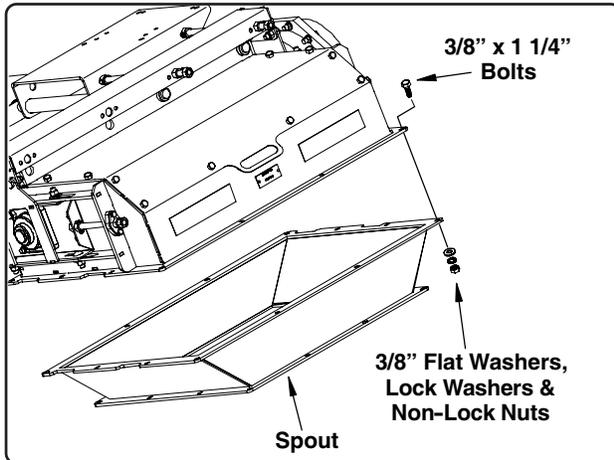

Fig. 13
1. Install the spout to the discharge end of the conveyor. Secure the spout using 3/8" x 1 1/4" bolts, flat washers, lock washers and non-lock nuts (position the flat washers on the bottom side of the flange over the slotted holes). See Fig. 13.